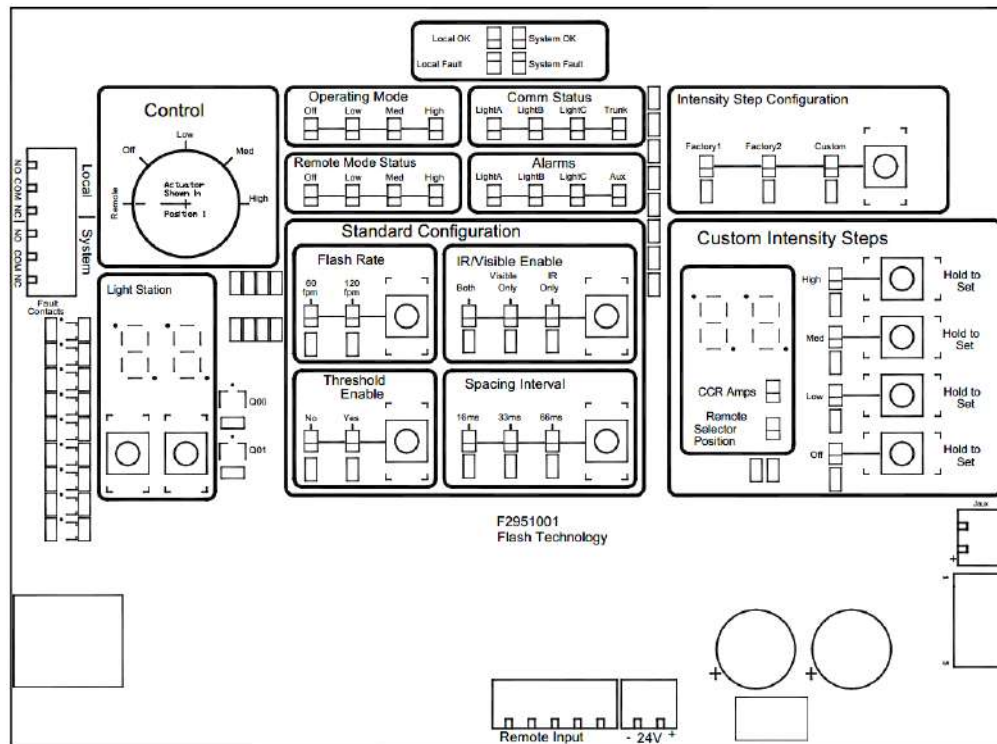

Figure 3.1 – User Interface Board
The user interface board is located inside the PC 81x(L) enclosure and controls the operational parameters of the system. Refer to Figure 3.1 for a graphical reference to the sections listed below.